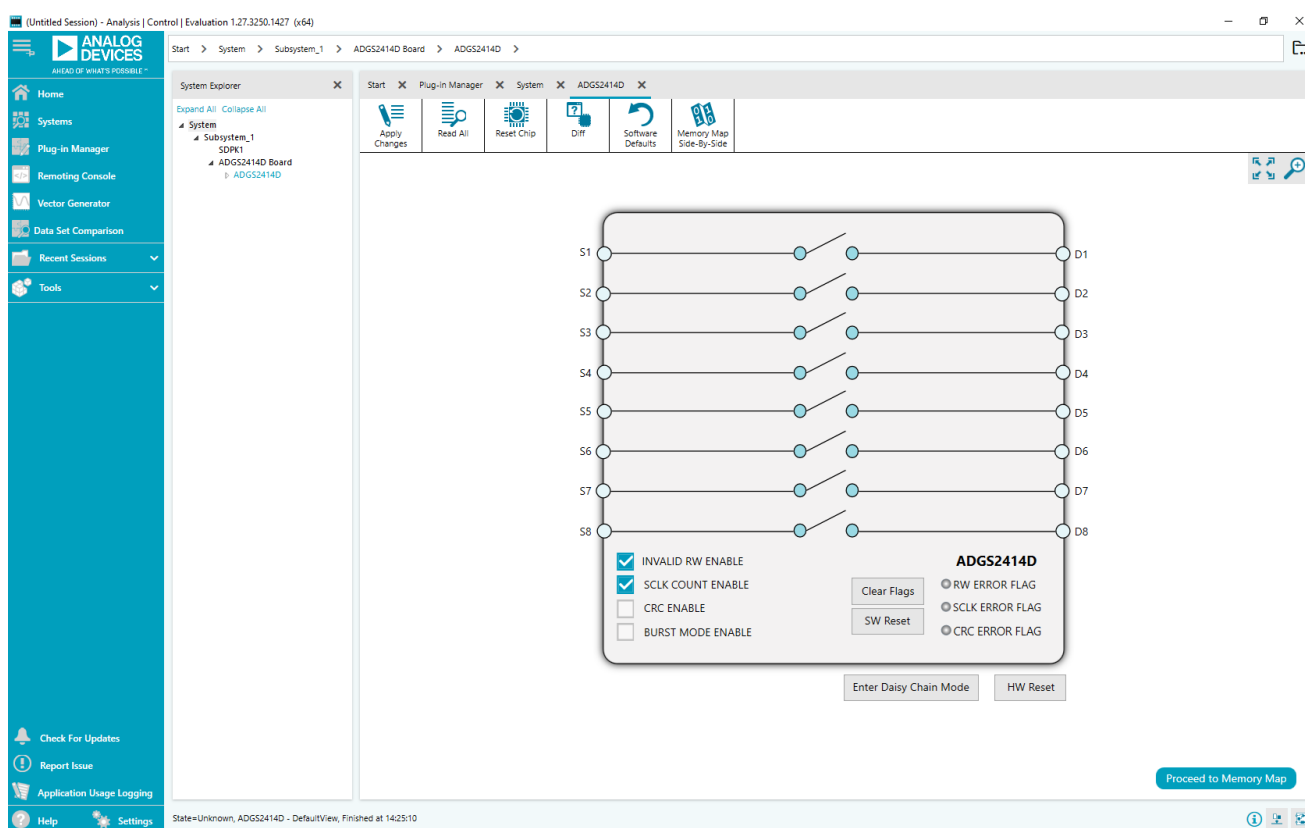

Figure 2. Chip View for the ADGS2414D
5. Double click the **ADGS2414D Board** evaluation board plugin to open the ADGS2414D chip view, as shown in Figure 2.